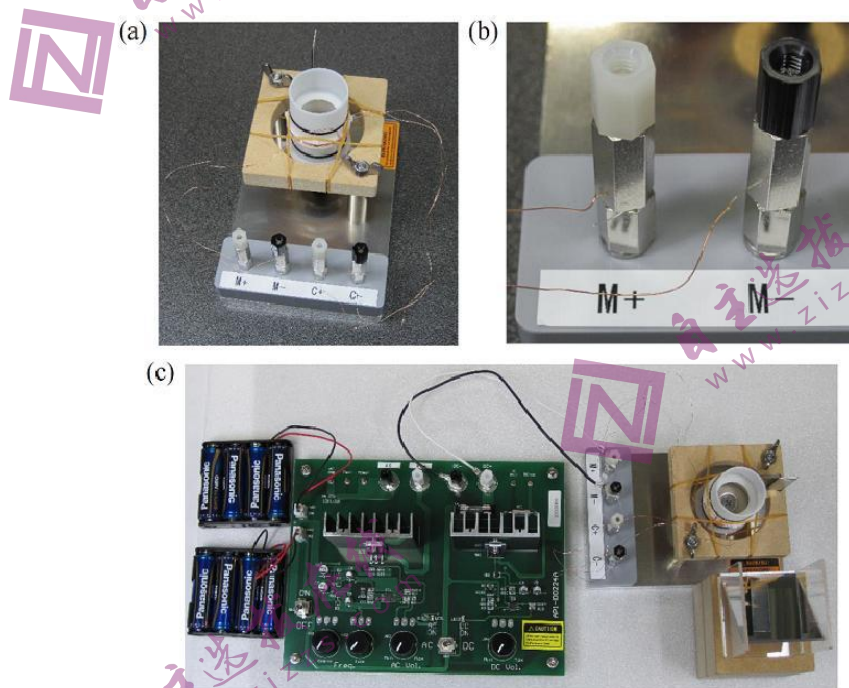

Figure 5: (a), (b) Binding posts wired, (c) The whole setup wired including PS and batteries.
2. Loosen the screw on the binding posts M+ and M- to allow for gaps. Use the lower gaps for the wiring (Fig. 5(a), (b)). The polarity check will follow soon.
- Place the batteries in the battery holders and secure connections with PS (CN1, CN2) (Fig. 5(c)).